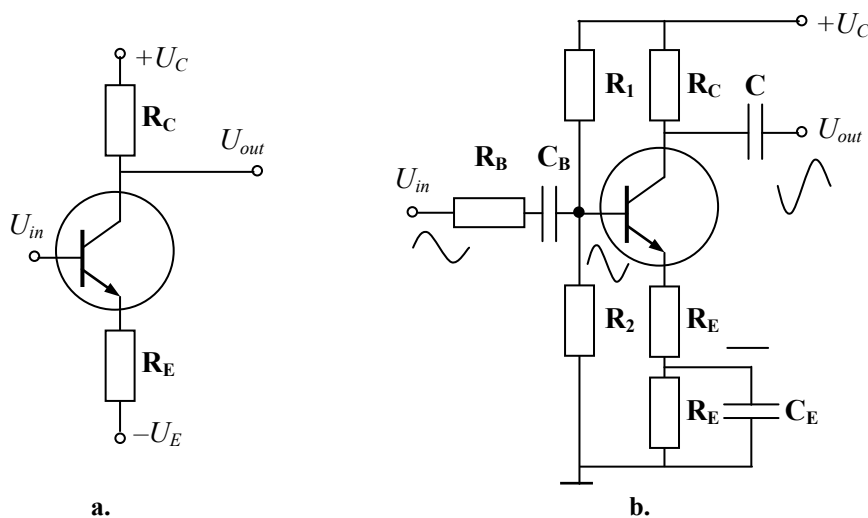

Fig. 2.12
Historically, the first attempt to stabilize the Q point was to introduce an emitter resistor  $R_E$ . There are two symmetrical supply sources in the circuit of Fig. 2.12,a – the positive source  $+U_C$  and the negative source  $-U_E$ . It is known as a *balanced supply* with two equal rails, positive and negative. While  $U_{in} = 0$ , the output  $U_{out} = 0$  too. Any quantity  $\Delta U_{in}$  leads to the  $\Delta U_E$  appearance, consequently
A feedback *voltage divider*  $R_E$  shown in Fig. 2.12,b is usually called a *bleeder*. Such a feedback amplifier was invented in 1927 by H.S. Black. When the gain increases, so does the output quantity too. This output quantity flows through the emitter resistor, which diminishes an input quantity. In other words, the output influences the input. It is called an *emitter current feedback*, and refers to the output controlling of the input, at least partly. This *staircase divider* is a part of the loop that stabilizes the voltage gain. The voltage across the feedback resistor opposes the input voltage. This negative feedback reduces the voltage gain, but improves the gain stability and distortion. The resistor  $R_1$  is another attempt to stabilize the Q point using a *negative collector feedback*. When the current gain increases, the collector current reduces the collector voltage, which means a lower base current and, therefore, a lower collector current.
**Two-stage dc amplifier.** The capacitor between the stages shown before in Fig. 2.12 decreases the signal and shifts its phase. It is the main reason of the frequency limiting in the ac amplifiers. Moreover, the capacitor needs an additional place in the amplifier design. As there are many applications without ac signals, the dc amplifier manages without the capacitor.